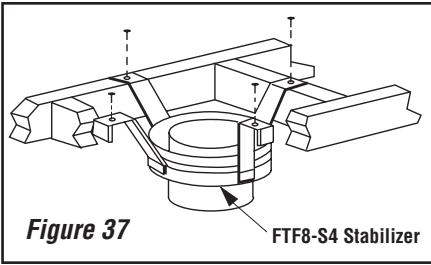

Figure 37 FTF8-S4 Stabilizer
Install the Model FTF8-S4 stabilizer by fitting inner section down into respective section of proceeding flue pipe and locking outer stabilizer section into place over the outer chimney pipe. Position for proper clearance through framed opening and nail straps securely (under tension in "shear") into place on framing. Use 8d nails. Attach successive lengths of chimney pipe directly to stabilizer using same techniques as described in **Step 4** (see **Figure 37**).
Step 1. Use the Offset Chart (**Table 4**) to determine amount of horizontal offset (A) and height (B) for various chimney section assemblies.
Step 3. Use Elevation Chart as job estimator only. Add necessary firestop spacers and stabilizers as required. Firestop spacers must be used as shown in **Figures 31 & 32** and stabilizers as shown in **Figure 37**.